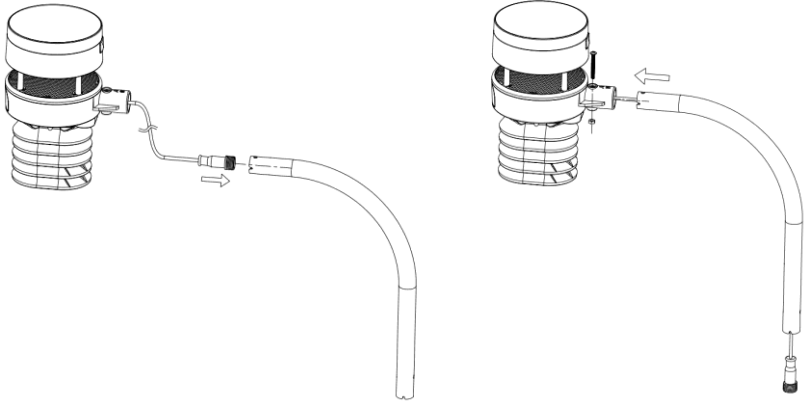

Figure 7: Sensor package mounting diagram 5-2
2. Pass the connector cord through the arm tube as Figure 7: